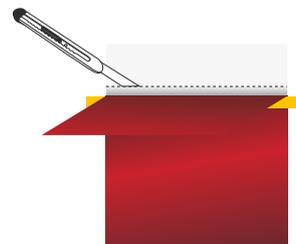

Figure 04
- Retirer 10 cm de liner. (FIG. 04)